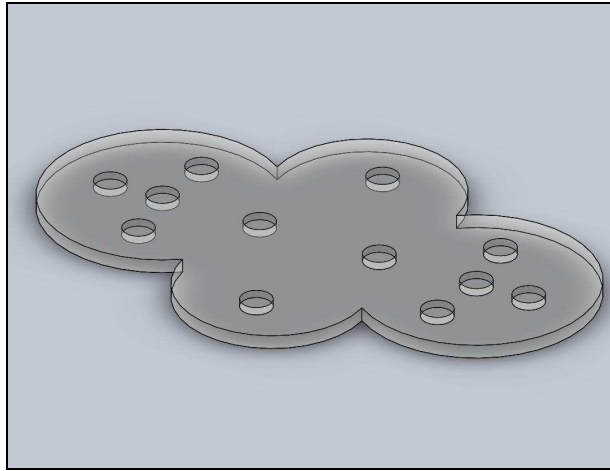

Figure 12: Bottom piece completely cut out with tape removed
- C. Continue to make sub cuts until bottom piece is completely cut out as shown in Figure 12.